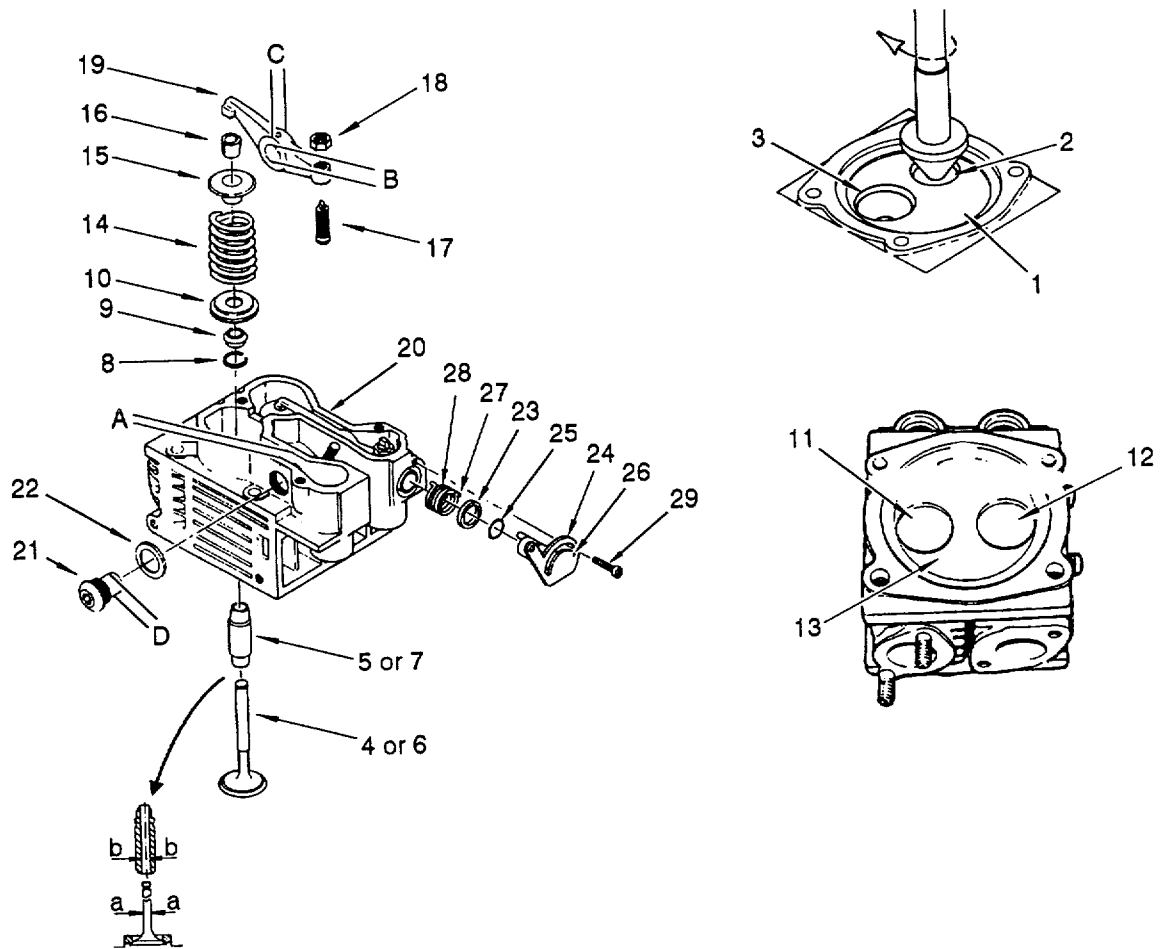

Figure 6-36. Cylinder Head Repair and Assembly
- c. Remove cylinder (1) from piston (2). Add or remove gaskets (3) as required to obtain piston (1) protrusion of 0.004 to 0.008 in. (0.1-0.2 mm).
6.4.12 Assemble Cylinder Head. (Refer to figure 6-36)